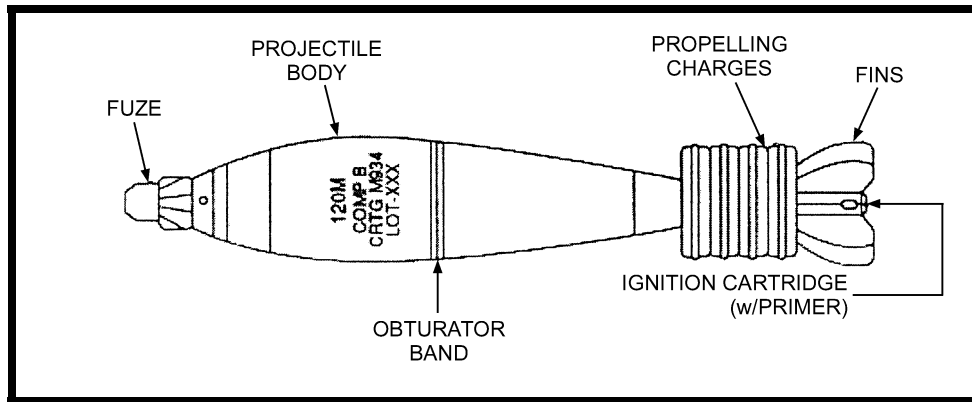
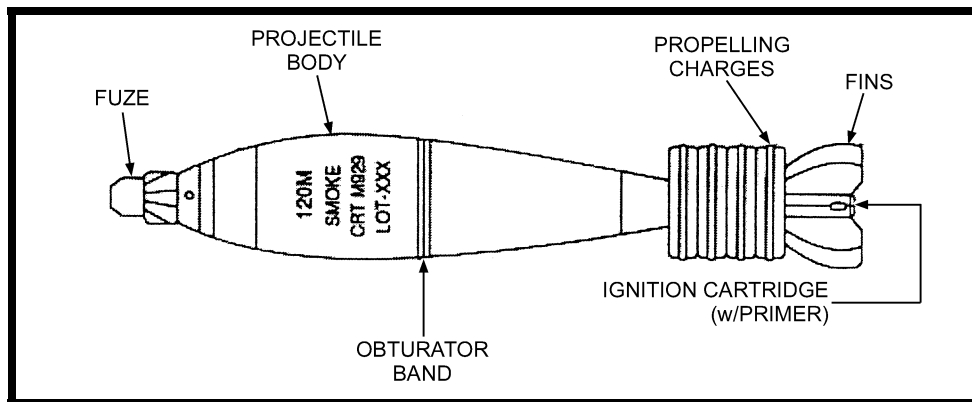

Figure 7-13. M934 HE cartridge.
Figure 7-14. M929 smoke cartridge.
e. **M934 HE Cartridge** (Figure 7-13).
- (1) Type and use: High explosive fragmentation and blast.
- (2) Identification: Olive drab with yellow markings.
- (3) Components: M745 PD fuze; M230 propelling charge.
- (4) Maximum range: 7,200 meters at charge 4.
- (5) Minimum range: 200 meters at charge 0.
f. **M929 Smoke Cartridge** (Figure 7-14).
- (1) Type and use: Smoke (white phosphorus); screening and spotting.
- (2) Identification: Light green with light red markings.